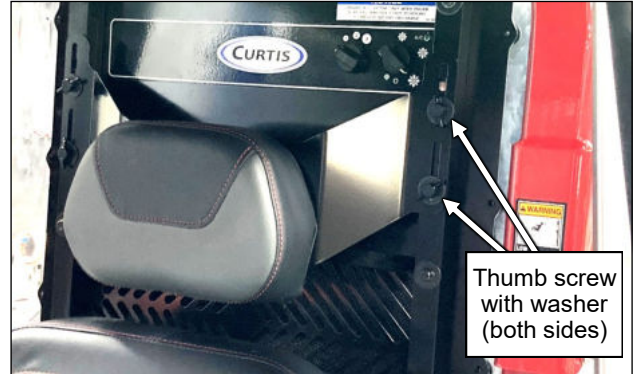

Fig. 10.11 (Headrest mount)
10.11 See fig. 10.11. Attach the headrest mount assembly (from step 2.4) to the rear frame with thumb screws and fender washers. Adjust the height of the headrest as desired, then tighten the thumb screws finger tight.